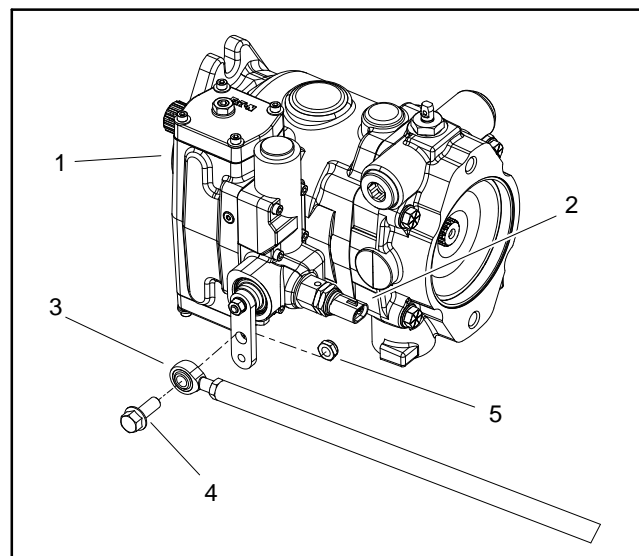

Figure 56
3. Remove traction rod from control arm on piston pump by removing lock nut and flange head screw (Fig. 56).
4. Disconnect wire harness connector from neutral switch on traction pump (Fig. 56).
2. Carefully lower piston pump into the machine and position it to the engine adapter plate. Support pump to prevent it from falling while installing two (2) cap screws and washers securing piston pump to engine adapter plate. Torque screws from **77 to 93 ft-lb (105 to 126 N-m)**.
4. Position traction rod to control arm on piston pump and secure with flange head screw and lock nut (Fig. 56).
8. Disconnect engine run solenoid electrical connector to prevent engine from starting. Prime pumps by turning ignition key switch to crank engine for ten (10) seconds. Repeat cranking procedure again.